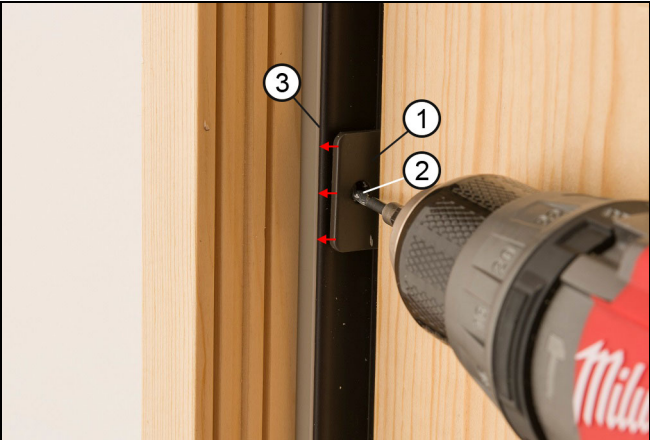

Figure 88
- 3. Flush the interior side of the jamb brackets with the interior side of the frame covers. Pre-drill with a 3/16" drill bit through the jamb only, then fasten the panel to the frame with a #8 x 3 1/2" screw. See Figure 88.